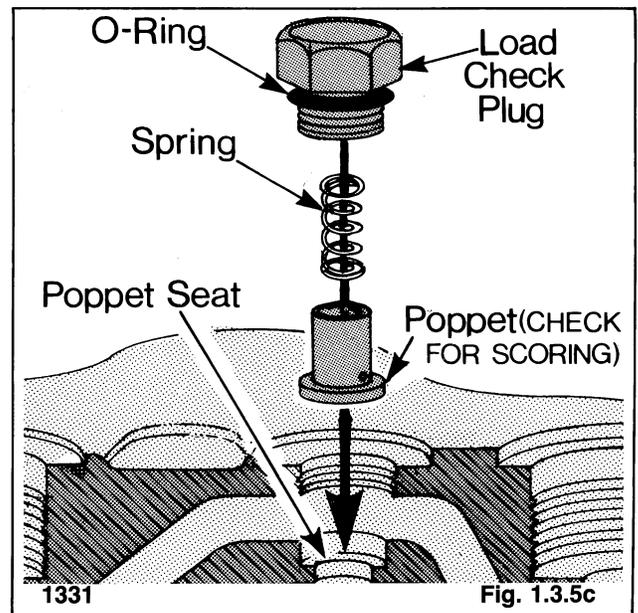

Fig. 1.3.5c
2. Inspect the load check valve springs (3) for breakage or loss of tension.
3. Inspect the load check poppets (4) for scoring or wear (fig. 1.3.5c).